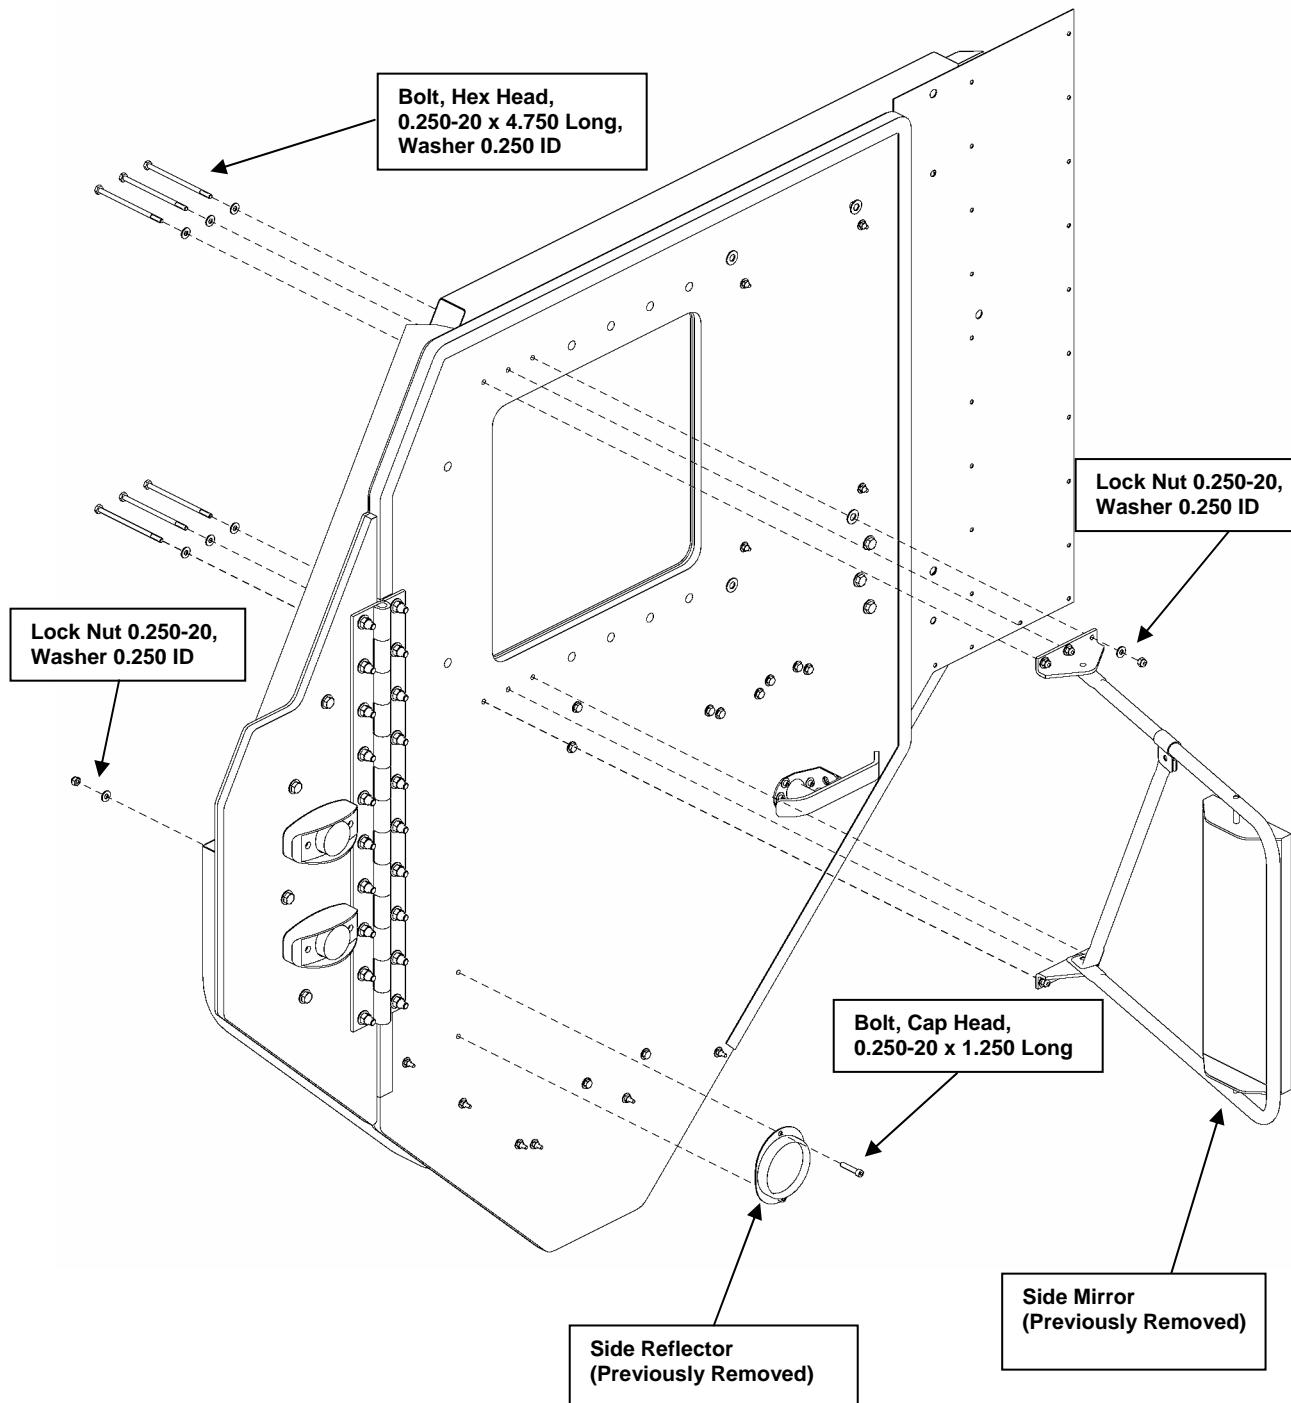

Figure 30. Mirror and Side Reflector installation.
- cc) Install the door reflector that was previously removed from the door using the hardware shown in Figure 30.
- dd) Remove the five remaining 0.250-20 x 4.750-in.-long bolts located in the door and attach the previously removed side mirror using the hardware shown in Figure 30.